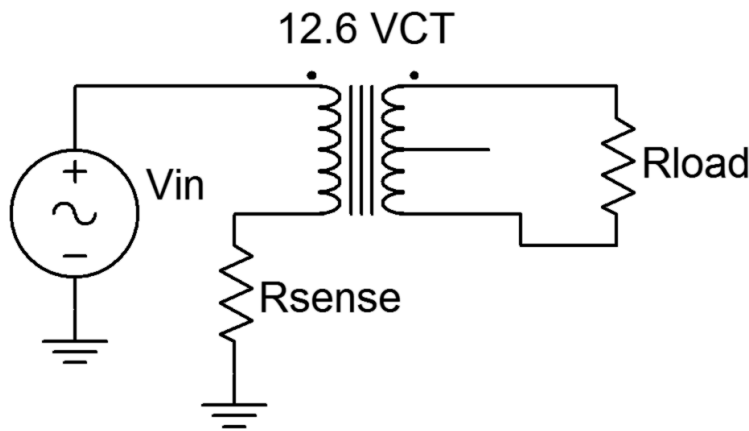

Figure 2
3. Build the circuit of Figure 2 using  $R_{sense} = 22\ \Omega$ ,  $R_{load} = 10\ \Omega$  and  $V_{in} = 5$  volt peak sine at 60 Hz. Place one scope probe across the load and the other across  $R_{sense}$ . Record the peak amplitudes in Table 2 and capture an image of the scope display.